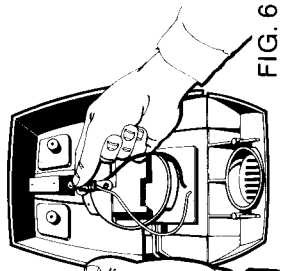

FIG. 6
5. Unscrew the bulb, shown in Fig. 6, and replace with a new bulb that you have tested to be sure it works.